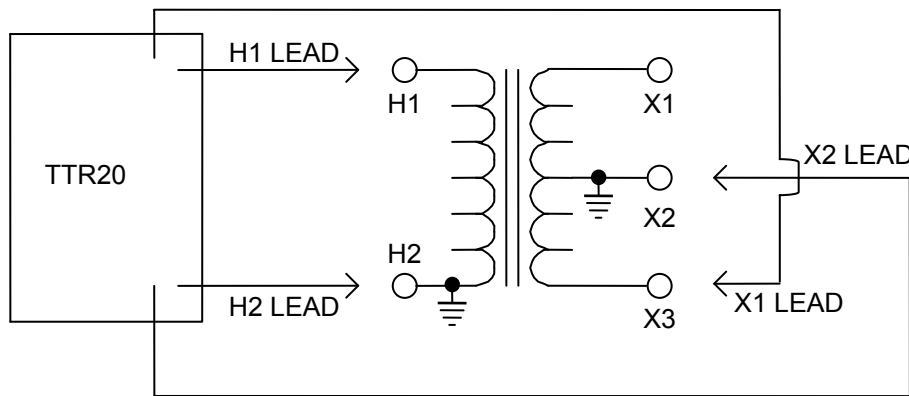

Figure 4-6 Setup for Testing X3 – X2 Winding of Distribution Transformer (H2 and X2 Grounded)
4. When testing X3-X2 winding, connect the X1 clip to X3 transformer terminal, and connect the X2 clip to X2 transformer terminal. Expect that polarity of the windings is reversed (“-” sign is displayed in front of the turns ratio test result). See *Figure 4-6*.